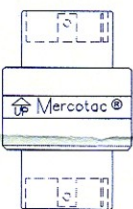

Fig 1
1. Mercotac® connectors can be used both horizontally and vertically. However the "UP" arrow on the body of the connector should not point below horizontal. The connectors are reversible so they need not be installed upside down. It is preferable to store units upright (arrow up). <Fig 1>